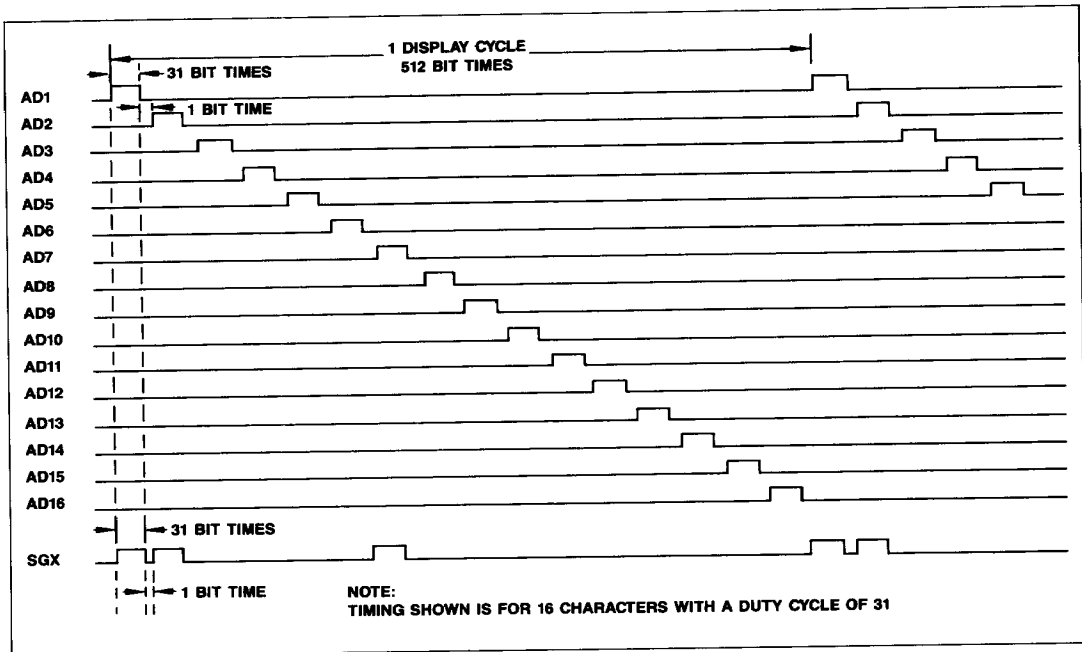
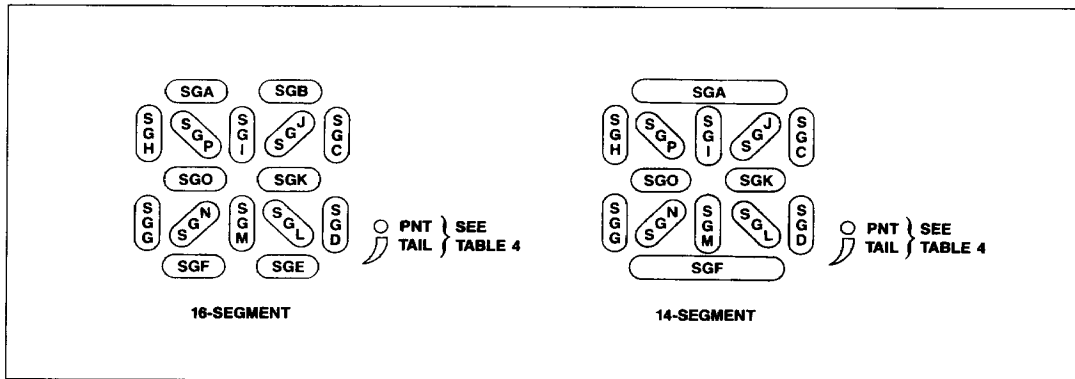

Figure 1. Display Scan Timing Diagram (Duty Cycle)
Figure 2. Segment Driver Allocations
The sixteen Digit Drivers (AD1 – AD16) are used to select each of the display digits sequentially during a refresh scan. Display segments will be illuminated when both the Digit Drivers and Segment Drivers for a particular character are energized simultaneously. The timing characteristics of both the digits and segments are shown in Figure 1. See POR for the Power-On Reset state of these drivers.
Sixteen (16) Segment Drivers are provided (SGA – SGP), plus the decimal point (PNT) and comma tail (TAIL). The segment outputs are internally decoded from the 8-bit characters in the Display Data Buffer by means of a 64×16 -bit PLA. The Segment Driver Allocations are shown in Figure 2. Data codes and their corresponding segment patterns are shown in Figure 3. Timing characteristics for the segment outputs are shown in Figure 1. See POR for the Power-On Reset state of these drivers.